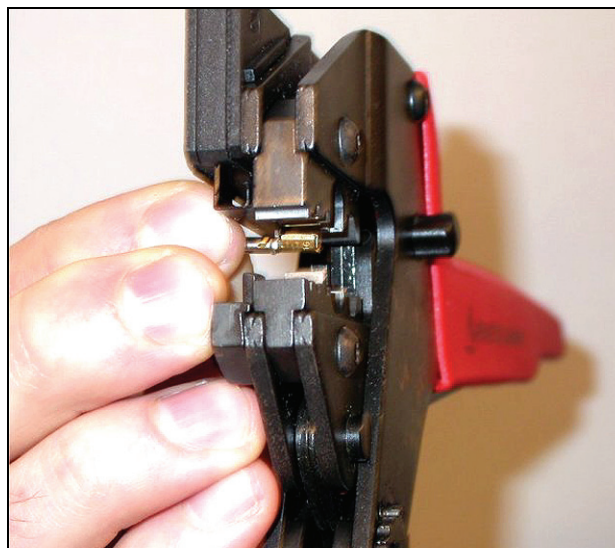

*figure 30.11: Stripping a copper wire*
- 9 Strip the red and brown insulations from the copper wires by pushing them to the mechanical stop of the stripping tool (tool 5, see figure 30.11).